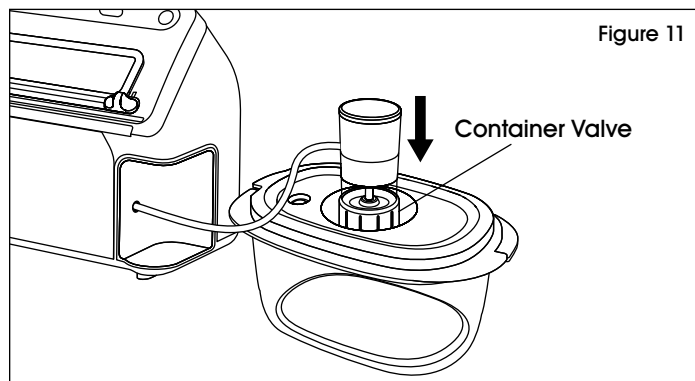

Figure 11
- Place end of handheld sealer over container valve. (See Figure 11)